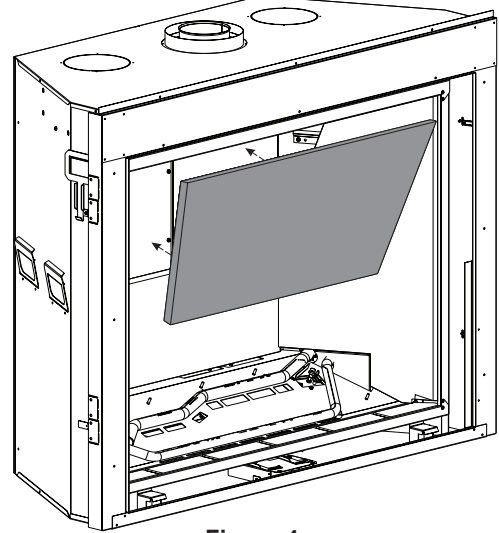

Figure 4
3. Place the LINER REAR - TOP on top of LINER REAR - BOTTOM and rest against right side of FIREBOX and LINER SIDE - RIGHT. **See Figure 4.**